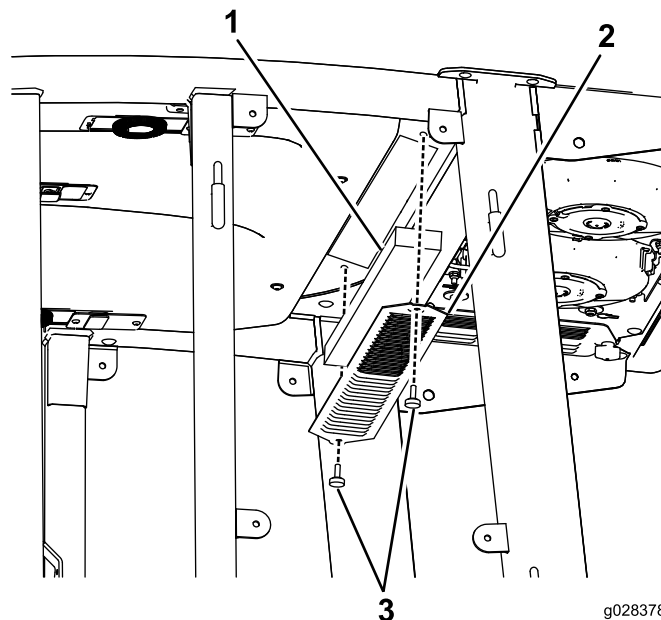

Figure 106
3. Remove the cabin roof of the cab by removing the 22 bolts that secure the roof (Figure 106).
4. Remove the air filters (Figure 106).
5. Remove and clean the air conditioning coils (Figure 106).